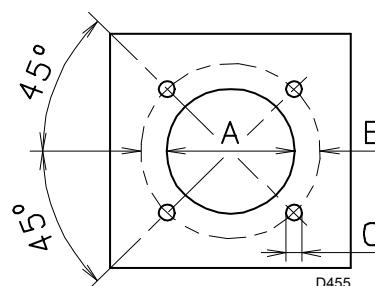

Fig. 11
Pierce the closing plate of the combustion chamber, as in Fig. 11.
- Insert the entire burner on the boiler hole, previously fitted, as in Fig. 11 on page 16, and fix it with the screws supplied.